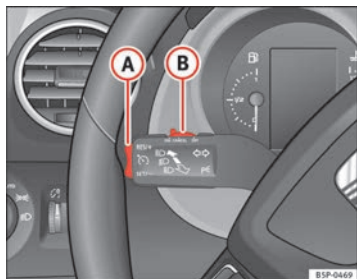

Fig. 152 Indicator and main beam headlight lever: switch and rocker switch for the cruise control
- Press the lower part **SET/-** of the rocker switch ⇒ fig. 152 **A** once briefly when you have reached the speed you wish to set.